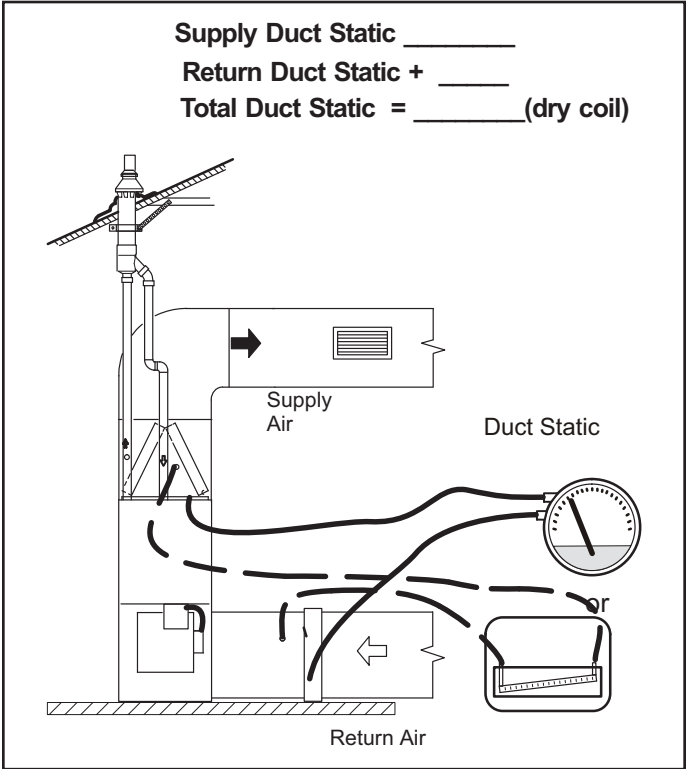

Figure 54. Static Pressure Test
1. Tap locations shown in Figure 54.